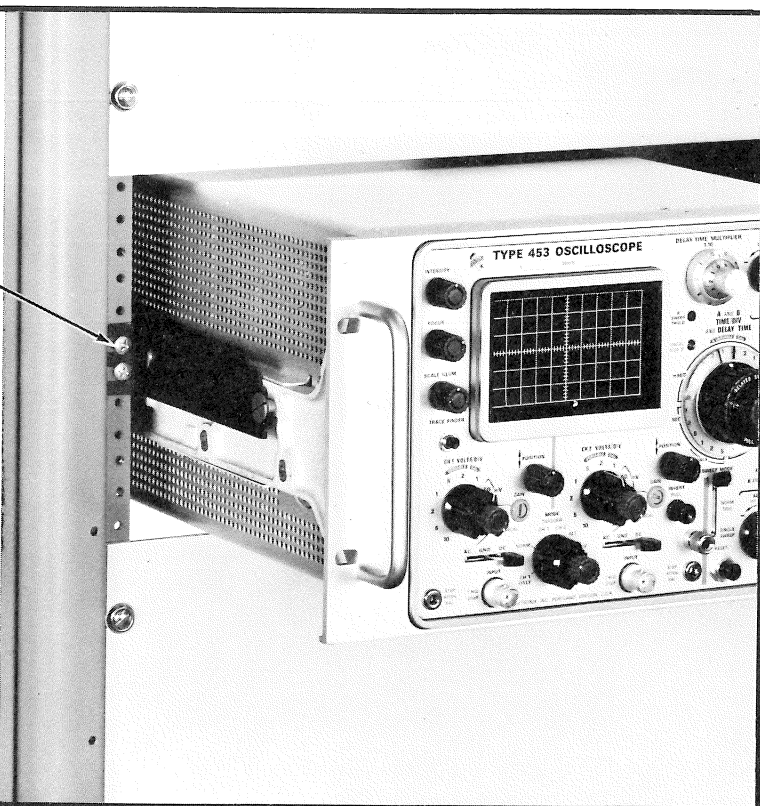

Fig. 8. Locating the mounting holes for the left stationary section. Same dimensions apply to right stationary section.
1. Select the proper front-rail mounting holes for the stationary sections using the measurements shown in Fig. 8.